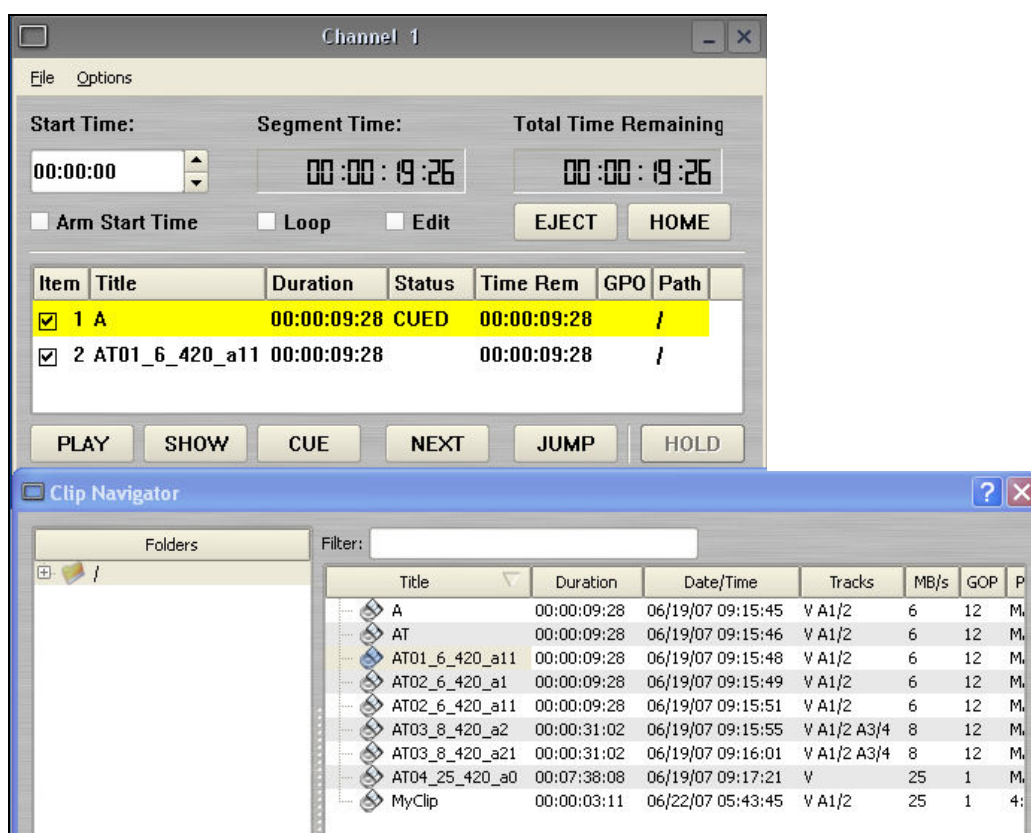

Figure 20 - Channel 1 playlist with Clip Navigator
- Change the transport for Channel 1 to the **Playlist View**. Click **FILE->PLAYLIST** in the Channel 1 transport pulldown menu. The window of Figure 20 appears.